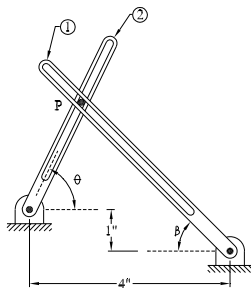

Figure 8.34:
5. For the mechanism in figure 8.34, determine the position of the peg  $p$  (that holds the two links together) as a function of as few angles as possible.